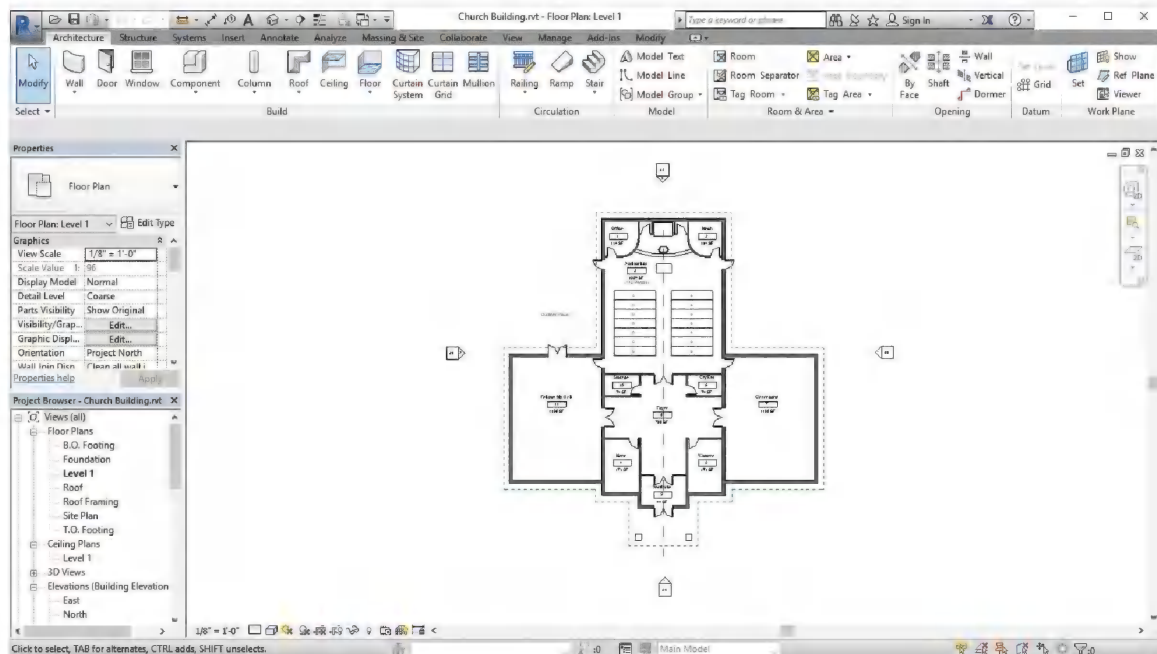

FIGURE 1-5.1 Church Building.rvt project
3. Select the file named **Church Building.rvt** and click **Open** (Figure 1-5.1).